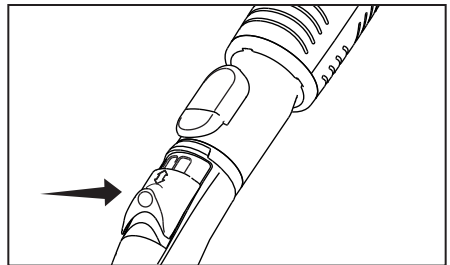

Fig. 2
- On the curved handle, locate the Suction Relief Valve and slide it backward (Fig. 2). This reduces the suction power coming through the tool. Slide the valve forward when finished to restore full suction power.